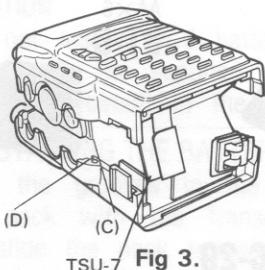

Fig. 3.
5. Slightly lift the sides of the battery case at the front and rear, as shown in figure 3.
8. When putting the case back together, make sure the PTT switch base ( part C ) fits in the groove ( part D ) in figure 3.